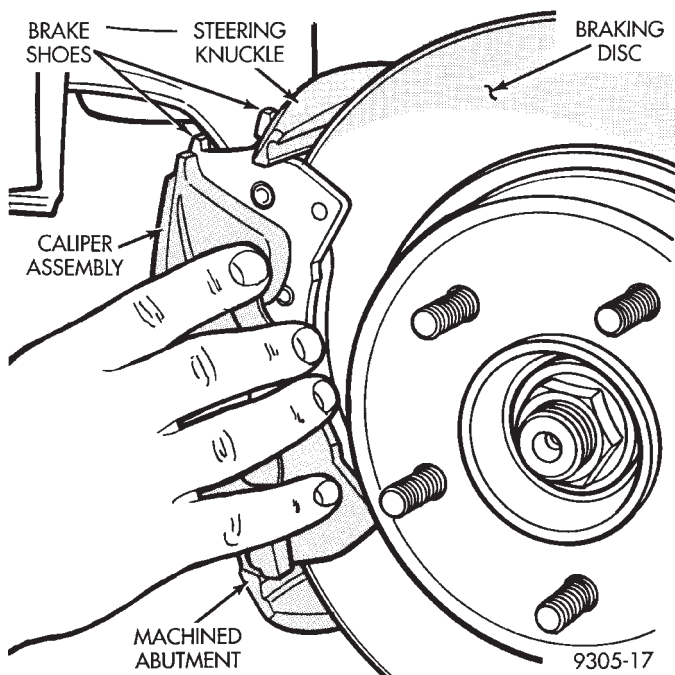

Fig. 18 Disc Brake Caliper Mounting
(9) Install front brake caliper back over braking disc and align with caliper mounting holes on steering knuckle (Fig. 18). Refer to Front Disc Brake Service in the Brake Section of this service manual for caliper installation procedure. Install the caliper to steering knuckle attaching bolts and torque to 19 N•m (168 in. lbs.).